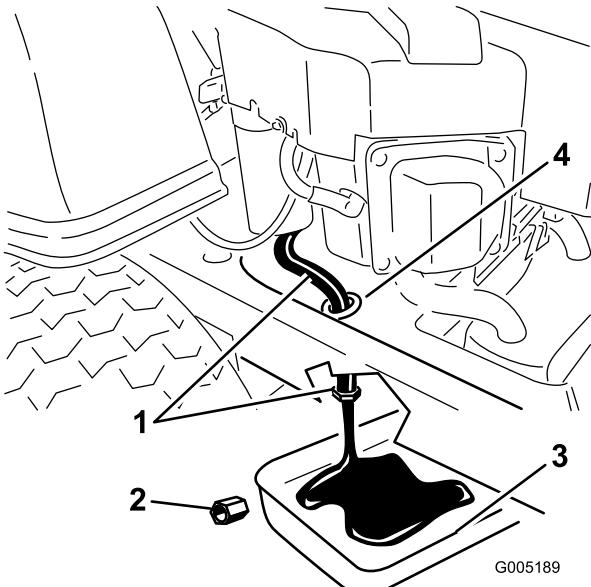

Figure 31
5. Locate the oil drain hose on the left side of the engine. The drain plug is attached to a drain hose routed through a drain hole in the machine frame (Figure 31). Clean the area around the oil drain plug cap and the oil drain hose.
6. Place a pan underneath machine directly below the oil drain hose as shown in Figure 31.
7. Using two wrenches (one to hold the oil drain hose and one to loosen the plug), remove the oil drain plug (Figure 31).
13. When oil has drained completely, install the oil drain plug. Tighten the plug to 14 N·m (125 in-lb) torque. Wipe up any excess oil (Figure 31).